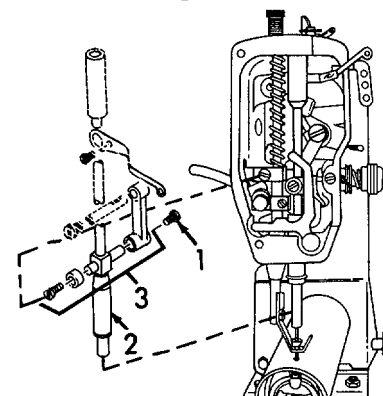

Figure 6-108. Needle Bar Assembly, Removal.
- (6) Refer to Figure 6-108. Loosen needle bar connecting stud screw (1) through access hole in rear of head.
- (7) Slide needle bar (2) down and out of needle bar connecting stud assembly (3).
- (8) Remove needle bar (2) and connecting stud assembly (3).